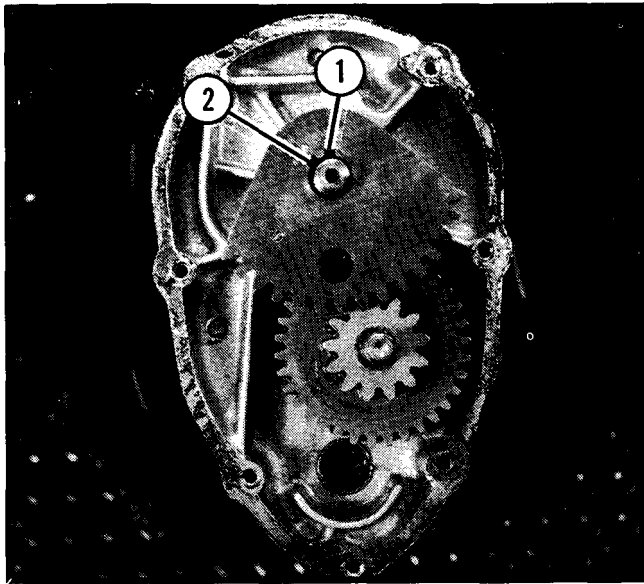

Figure 3.
5. Determine the correct keyway in the driven gear and install gear. See Figure 3.